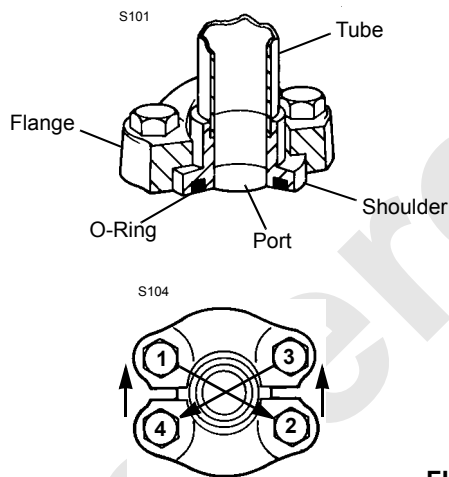

FIGURE 2-7
Lubricate and install O-ring in shoulder groove (see Figure 2-7).
3. Snug bolts in a diagonal manner (see Figure 2-7) to 1/3 of torque given in Table 2-6.